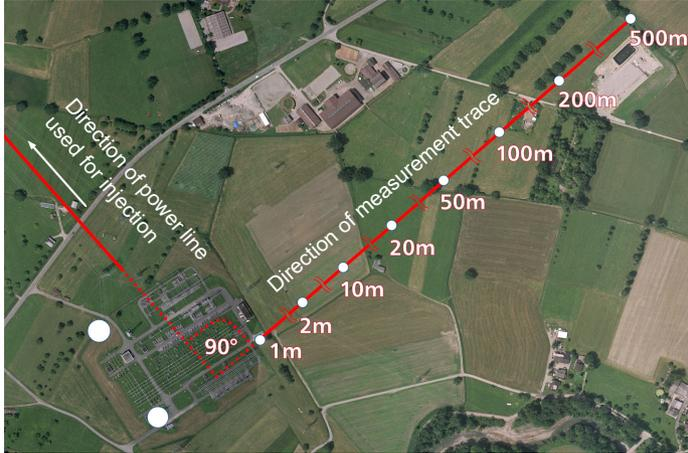

Figure 5-12: Direction of measurement trace
9. Follow the examples in Figure Figure 5-11: on page 55 and Figure 5-12: on page 56, by connecting the black input of the *HGT1* with any grounded part in the substation and the red input with the rod, which is used as test electrode.